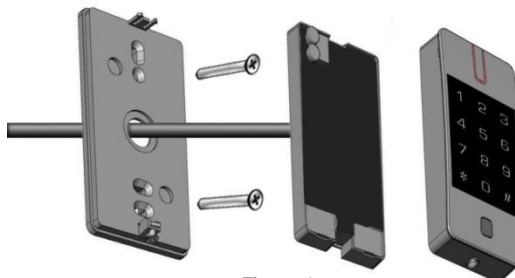

Figure 4
- Insert the reader in the back plate (see fig. 4).